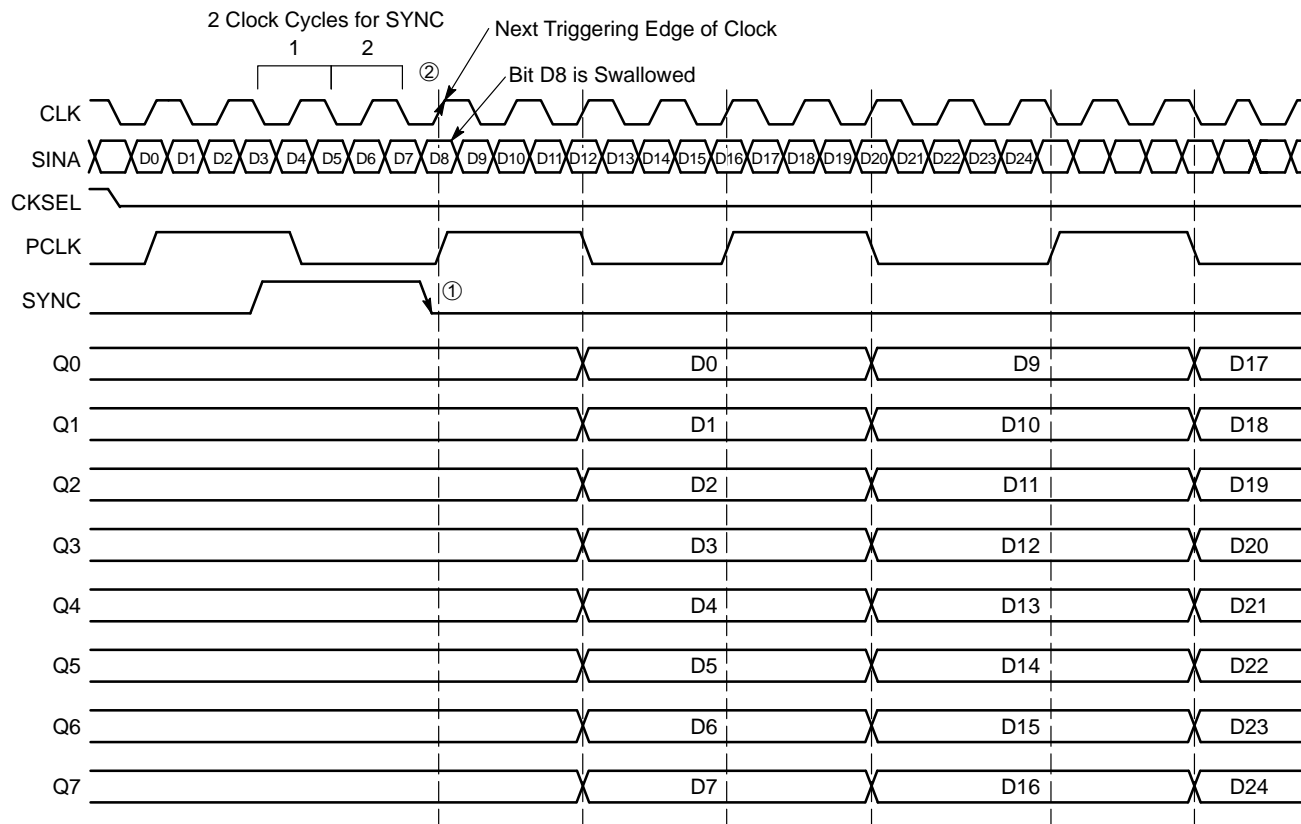
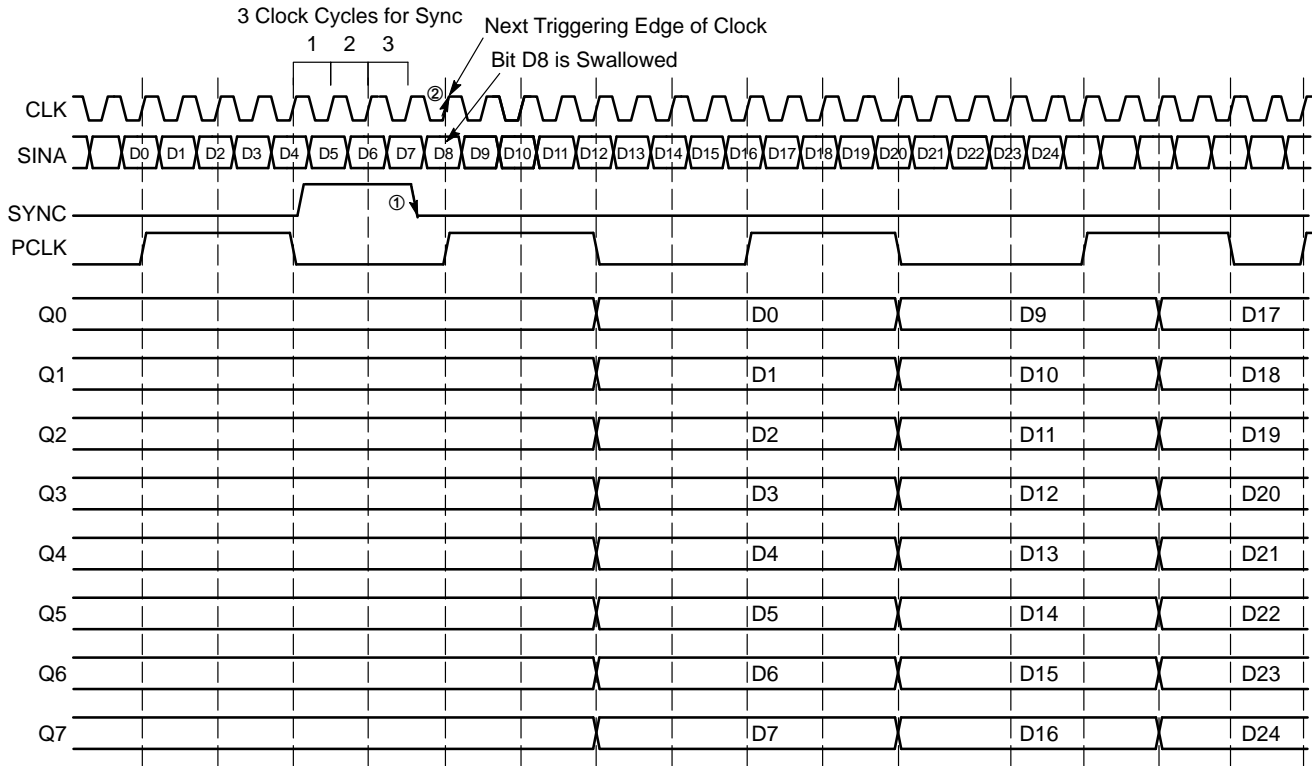

Figure 10. Timing Diagram A. 1:8 Serial to Parallel Conversion with SYNC Pulse at CKSEL LOW
Figure 11. Timing Diagram A. 1:8 Serial to Parallel Conversion with SYNC Pulse at CKSEL HIGH
To allow the user to synchronize the output byte data correctly, the start bit for conversion can be moved using the SYNC input pin (pin 2). Asynchronously asserting the SYNC pin will force the internal clock to swallow a clock pulse, effectively shifting a bit from the Q_n to the Q_{n-1} output as shown in Figure 10 and Figure 11. For CKSEL LOW, a single pulse applied asynchronously for two consecutive
clock cycles shifts the start bit for conversion from Q_n to Q_{n-1} . The bit is swallowed following the two clock cycle pulse width of SYNC^① on the next triggering edge of clock^② (either on the rising or the falling edge of the clock). Each additional shift requires an additional pulse to be applied to the SYNC pin. (See Figure 10)
triggering edge of clock② (on the rising edge of the clock only). Each additional shift requires an additional pulse to be applied to the SYNC pin. (See Figure 11)